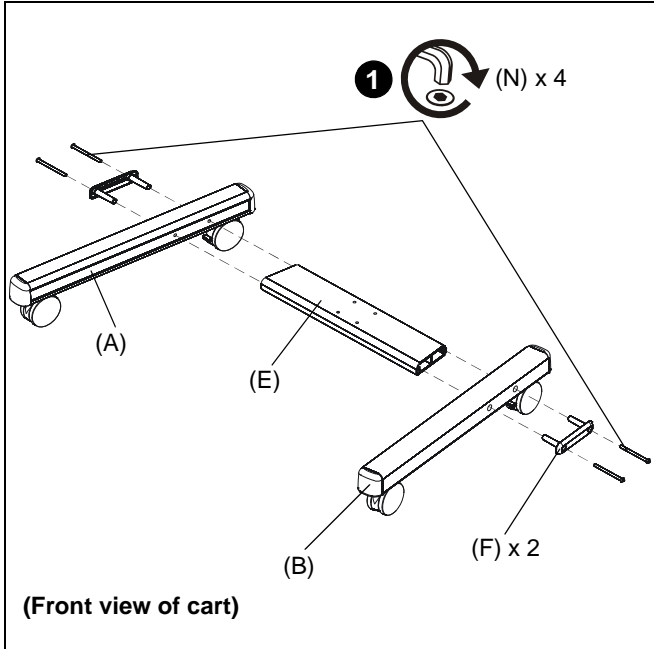

Figure 1
1. Assemble two legs (A) and (B) to the cart cross bracket (E) using two 5/16-18x4-1/4" button head cap screws (N) and one end cap (F) per leg. (See Figure 1)